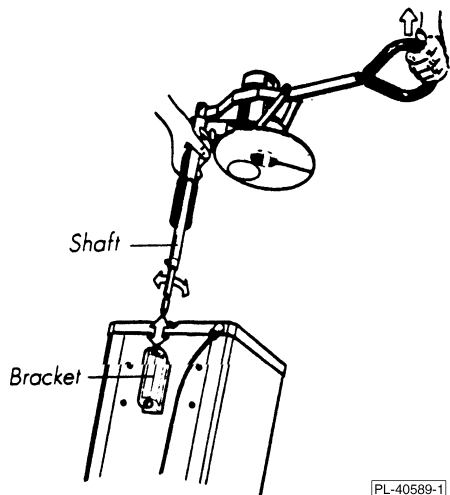

Fig. 2
1. To fit the pusher plate, you MUST hold it with both hands in the exact positions shown in Fig. 2. Hold it with the pusher plate handle to the left of the machine (as you face the front). Position the pusher plate shaft against the bracket on the food processor.
4. Take hold of the pusher plate with both hands (Fig. 2).